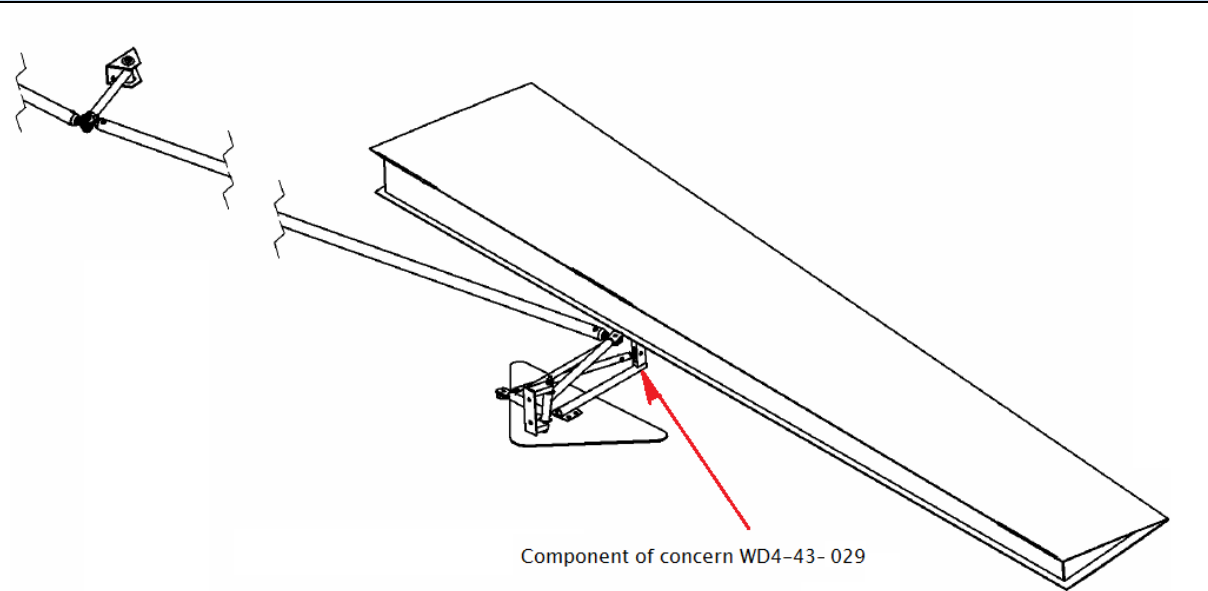
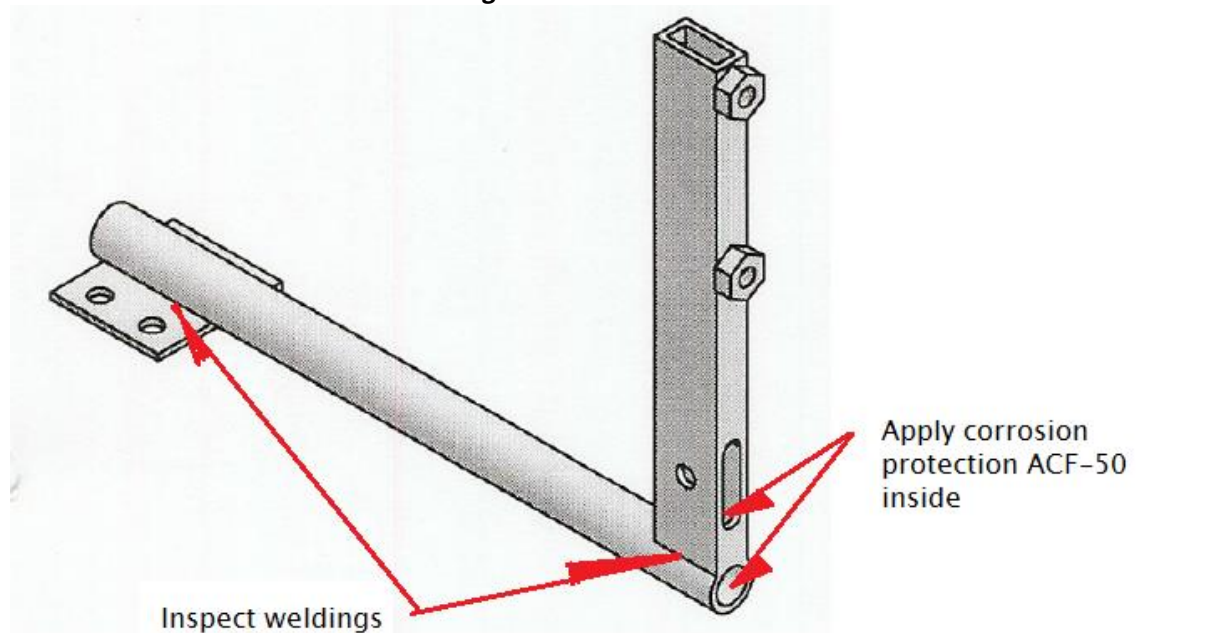

Figure 1 Area of concern
Figure 2 Support arm detail
- B.) Visual inspect the weld areas for signs of cracks and/or corrosion, ref. Figure 1 & Figure 2.
- C.) Perform dye penetrant inspection on the welding shown in Figure 2. In case of need/doubt remove surface coating (local sanding or sandblasting). Note: removal of the support arm from the aileron is not foreseen as regular maintenance action. In case this is needed contact AD&C for further instructions.
- b. Apply corrosion protection "ACF-50" as indicated in Figure 2